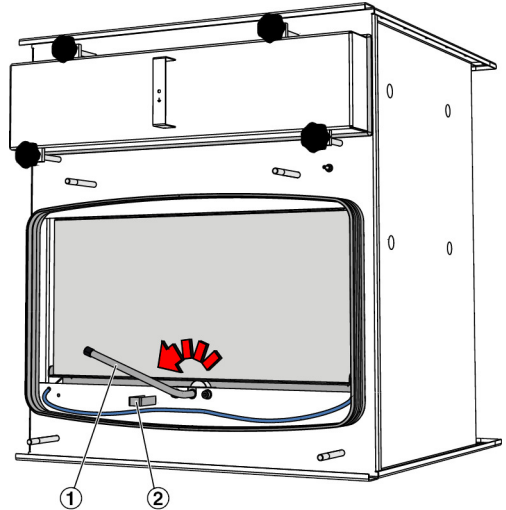

Fig. 12: Pressing the filter on
7. ▶ Press the filter seal against the sealing integrity test facility using the clamping frame. Then turn the operating lever (Fig. 12/1) anti-clockwise to the travel stop (Fig. 12/2).
- 12. ▶ Press the filter on, Fig. 12.